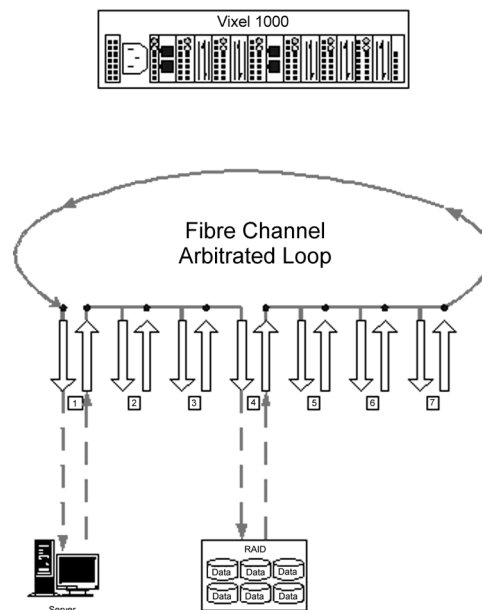

Figure 1-2. Fibre Channel Arbitrated Loop
The Vixel 1000 is designed as a seven-port central interconnect for Fibre Channel Arbitrated Loops following the ANSI FC-AL standard. Each Vixel 1000 port receives serial data from an attached node and retransmits the data out the next hub port to the next node attached in the loop (see Figure 1-2 on page 3). Each reception includes data regeneration (both signal timing and amplitude) supporting full distance optical and copper links.
- In Figure 1-2 on page 3, ports 1 & 4 have devices plugged in using OE1063SW optical GBICs while other ports are not currently connected.